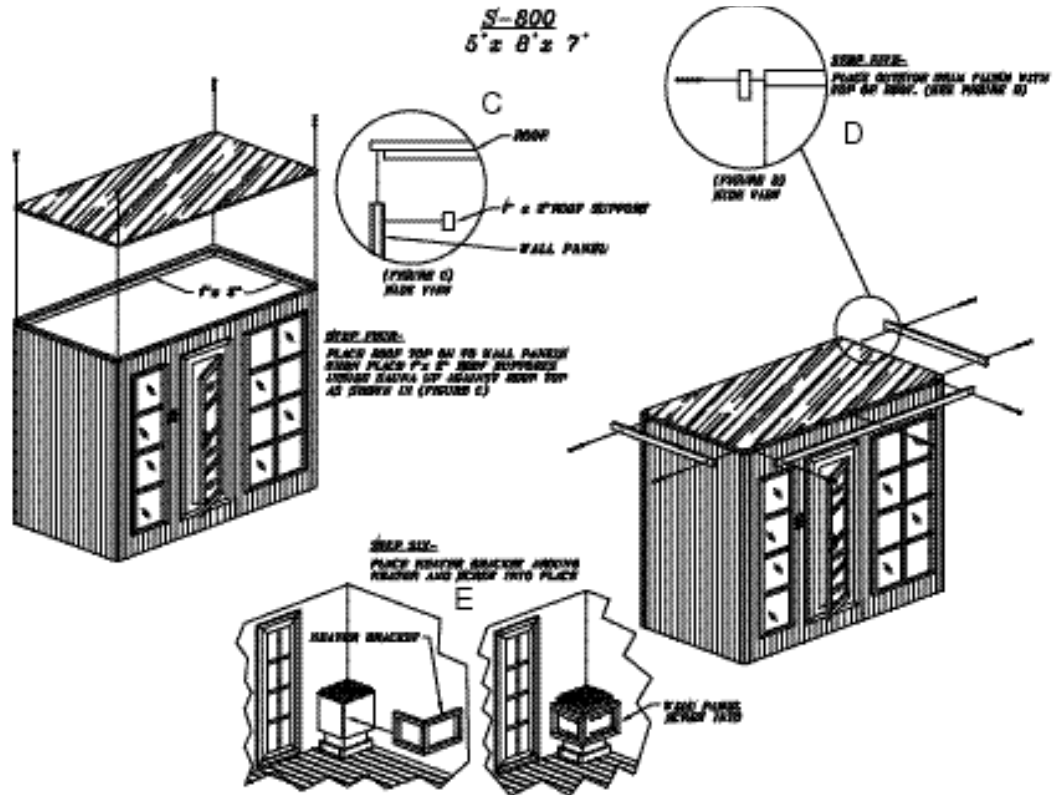

Figure 16B. S-800 Extreme Sauna Step 4 through Step 6
**NOTE:** The following steps deal with **Figure 16B**.